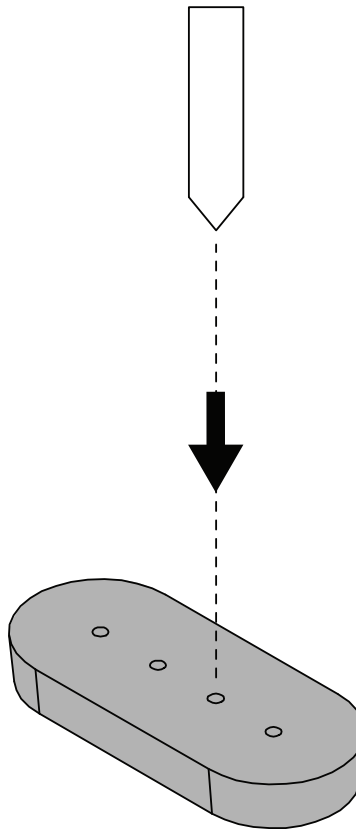

Figure 4
- Using a #1 drill bit, carefully drill through one or more of the pilot holes.(Figure 4)